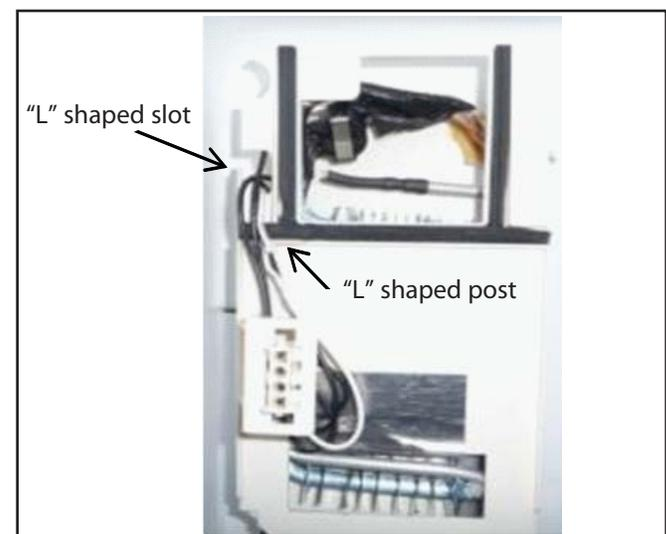

Figure 6-69
5. Route the wires from the Heater and Thermostat assembly down through the “L” shaped slot and to the left of the “L” shaped post on the Evaporator Housing, and snap the connector into the clip on the front of the housing from behind as shown. Figure 6-69.